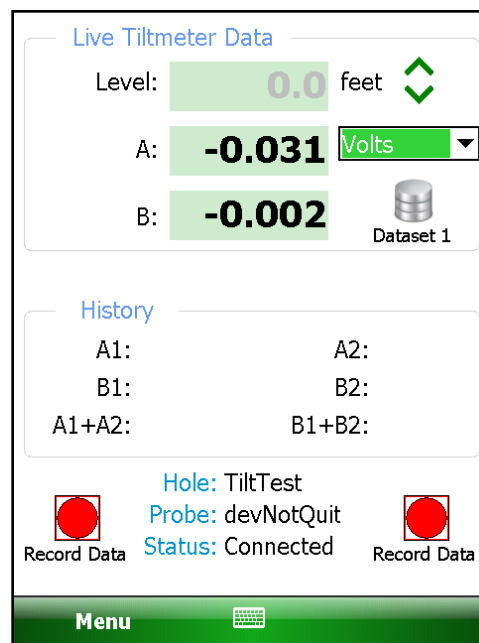

Figure 121 - Live Readings (Tiltmeter)
- 4) Tap the “Live Readings” menu item from the “Application” menu to start the reading process. If a valid wireless connection can be established, a dual axis, tiltmeter specific, Live Readings screen will be displayed (Figure 121).
Note the dropdown control in Figure 121, located just to the right of the “A” value display. This allows the “A” and “B” values to be displayed in three different units, described below: